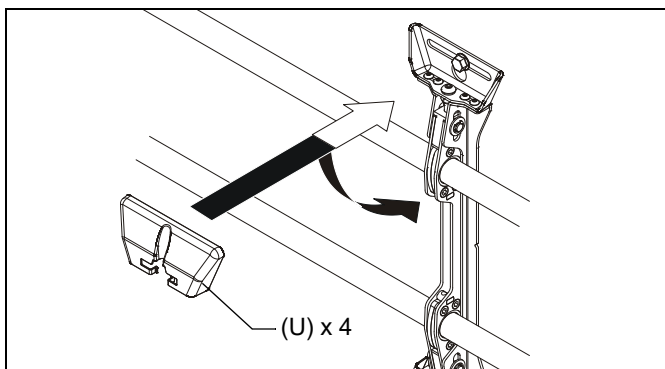

Figure 14
1. Attach wall covers (U) to top and bottom of both wall brackets. (See Figure 14)